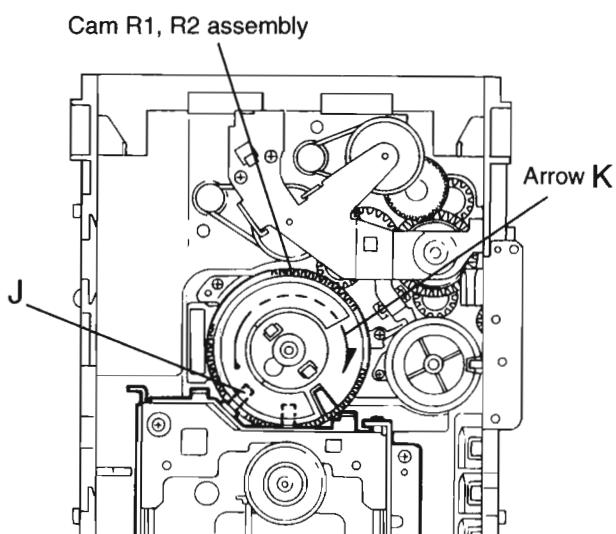

Fig.11
■ Removing the CD traverse mechanism (See Fig.11 and 12)
1. For dismounting only the CD traverse mechanism without removing the CD loading mechanism assembly, align the shaft "J" of the CD loading mechanism assembly to the position shown Fig.11 while turning the cam R1 and R2 assembly in the arrow direction "K" .